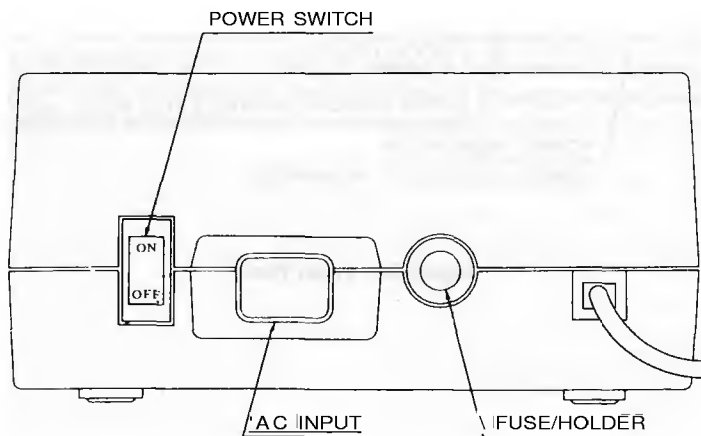

Figure 2. Back Panel
- Figure 2: Back panel
The power cable plugs into the back of the disk drive at one end, and into a grounded (3-prong) outlet at the other end. It will only go in one way. Before you plug it in though, make sure that your entire computer system is turned off. The disk drive's on/off switch is in the back, on the left side (see Figure 2). It is off when the portion marked "off" is pushed inward. Leave your whole system off until everything is connected.
Bad fuse in disk drive	Replace fuse (located on back panel, as shown in Figure 2) with one of same size and rating